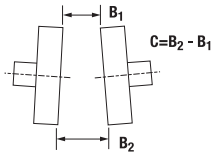

Figure 3
If precision equipment is not available, scales, straight edges, and calipers can be used as less accurate means of alignment. If using a scale or calipers, refer to Figure 3 and check the angular misalignment by measuring dimension “B” at four places 90° apart. Adjust the equipment until the four measurements do not vary more than value “C” in Table 1. If using a straight edge, check the parallel offset by laying the straight edge across the outside diameter of the flanges in four places 90° apart. The gap between the flange and straight edge should not exceed 1/32” (0.79mm). To achieve maximum coupling performance, align the coupling as accurately as possible during initial installation.
6. Align flanges using precision equipment such as dial indicators or laser equipment. If precision equipment is not available, scales, straight edges, and calipers can be used as less accurate means of alignment. If using a scale or calipers, refer to Figure 3 and check the angular misalignment by measuring dimension "B" at four places 90° apart. Adjust the equipment until the four measurements do not vary more than value "C" in Table 1. Repeat the procedure at both ends of the coupling. To achieve maximum coupling performance, align the coupling as accurately as possible during initial installation.